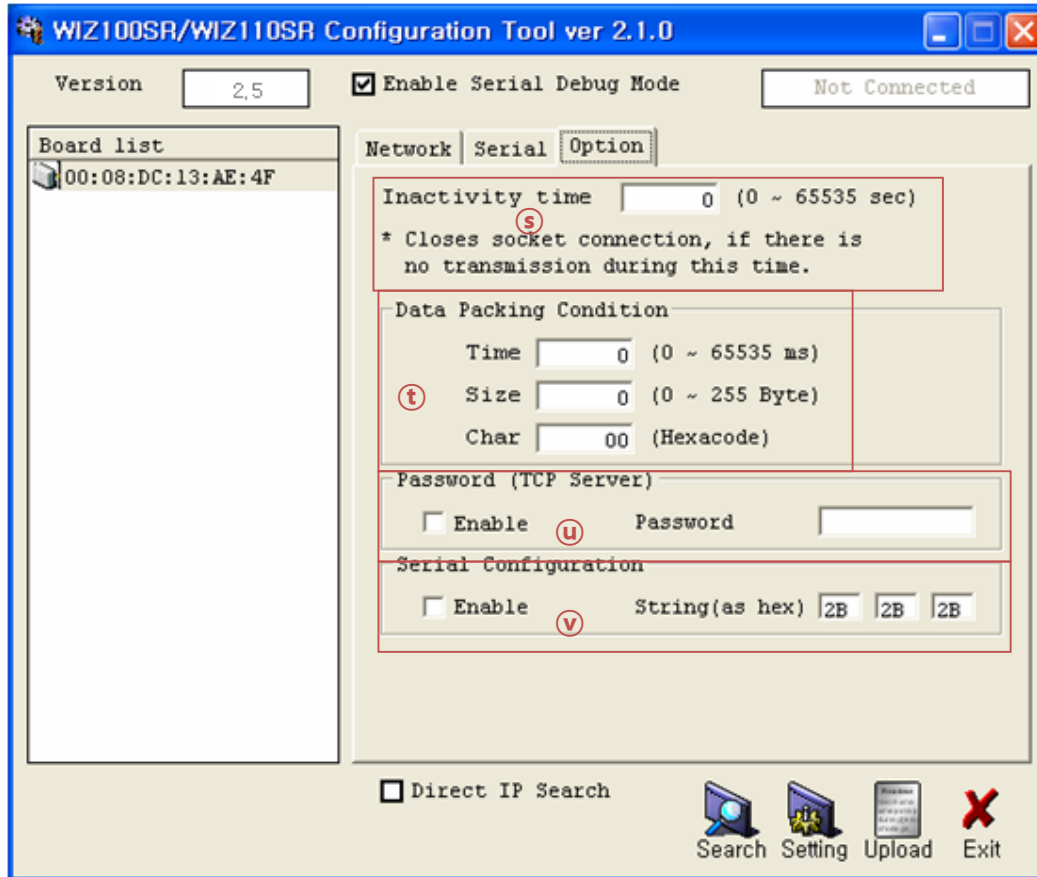

Figure 10. Configuration Tool (Option Config.)
3. As shown in Figure 10, select Option tab and check 'Enable' combo box of "Password" menu.
- ① Select a module shown in "Board list", and click "Upload" button.
- ☞ Before uploading through Ethernet, you should set the network information of WIZ100SR first by Configuration Tool program as shown above Fig 10. By using Ping test, you can check if network is correctly configured.
- ② When the window as shown below Figure is displayed, select file for upload and click "Open" button.